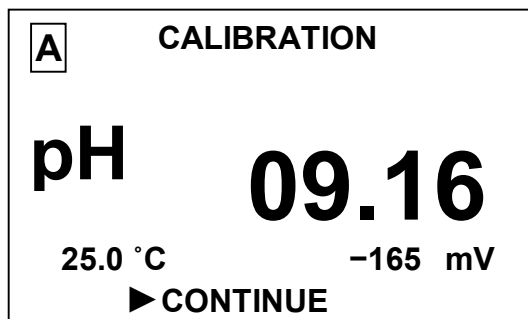

Figure 2.21
- 3 Set the “▶” marker at **MANUAL** and press the “menu” “enter” button. The screen as shown in Fig.2.21 will be displayed showing the buffer solution pH value measured before calibration.